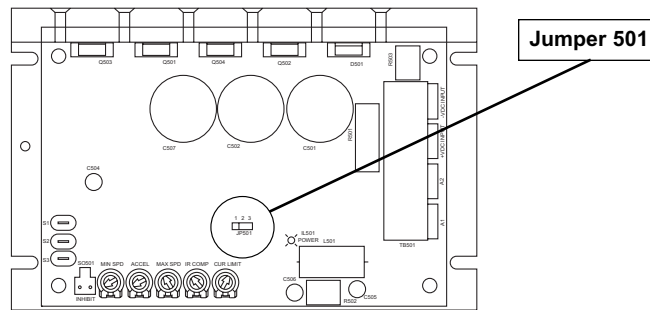

Figure 2. Jumper 501 (JP501)
- Figure 2. Jumper 501 (JP501)6
The 170-205-0016 drives are shipped with pins 1 and 2 jumpered on JP501. This allows you to use 24 VDC motors. To use 12 VDC DC motors, jumper pins 2 and 3. See Figure 2 for the location of JP501.